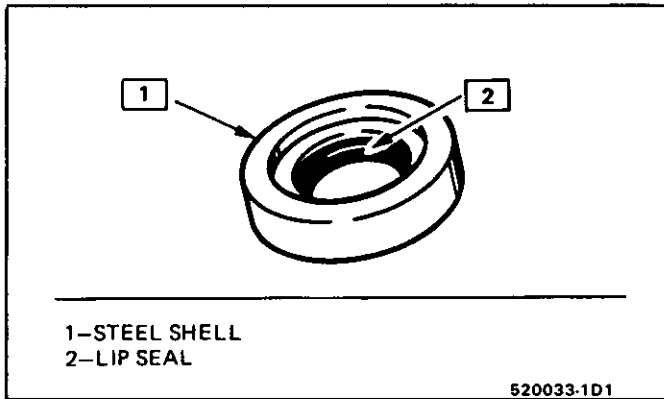
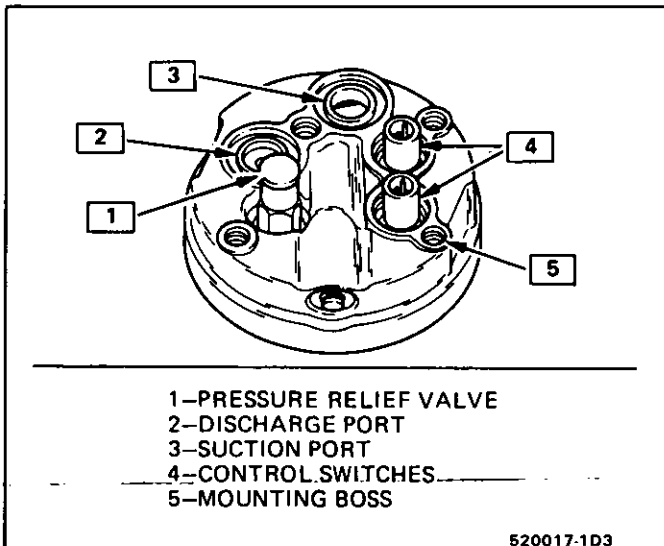

Fig. 22 Compressor Shaft Seal
Fig. 23 Compressor and Clutch Assembly - Rear View
When replacing the shaft seal assembly (Fig. 22), pressure relief valve or rear head mounted pressure switches (Fig. 23), even if the compressor remains on the vehicle during the operation, it will be necessary to discharge the system of refrigerant (see Section 1B).
Seals should not be re-used. Always use a new specification service seal kit on rebuild (Fig. 22). Be sure that the seal to be installed is not scratched or damaged in any way. Make sure that the seal is free of lint and dirt that could damage the seal surface or prevent sealing.
2. Remove old pressure relief valve (Fig. 23).
2. Disconnect the electrical connector from the high-pressure cut-off switch in the rear head of the compressor (Fig. 23).
3. Remove the high-pressure cut-off switch retaining ring (Fig. 23), using J-5403 internal snap ring pliers.